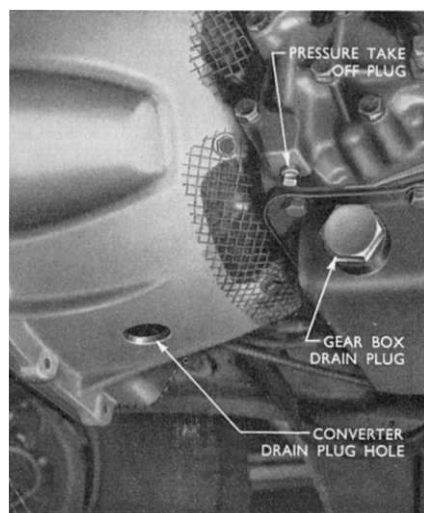

Fig. 3 **Draining the Gearbox**
- (1) Drain and refill the gearbox every 15,000 miles (24,000 kms). If the oil is drained immediately after a run it may be found to be quite hot and due care should be taken when removing the drain plug.
- (2) Apply the handbrake, place the selector lever in the " L " position and, if necessary, run the engine at idling speed until the gearbox reaches normal working temperature.
- (3) Switch off the engine, remove the drain plug on the left side of the gearbox sump and drain the gearbox.
- (4) Rotate the engine until the converter drain plug appears at the lower opening of the converter casing and remove the converter drain plug.
- (5) With the converter drain plug removed, remove the converter pressure take-off plug (Fig. 3).